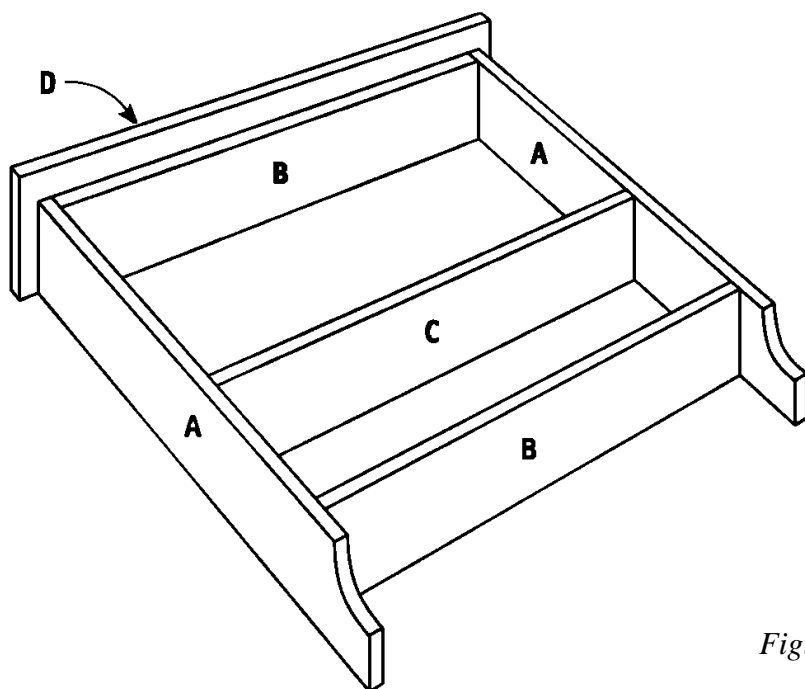
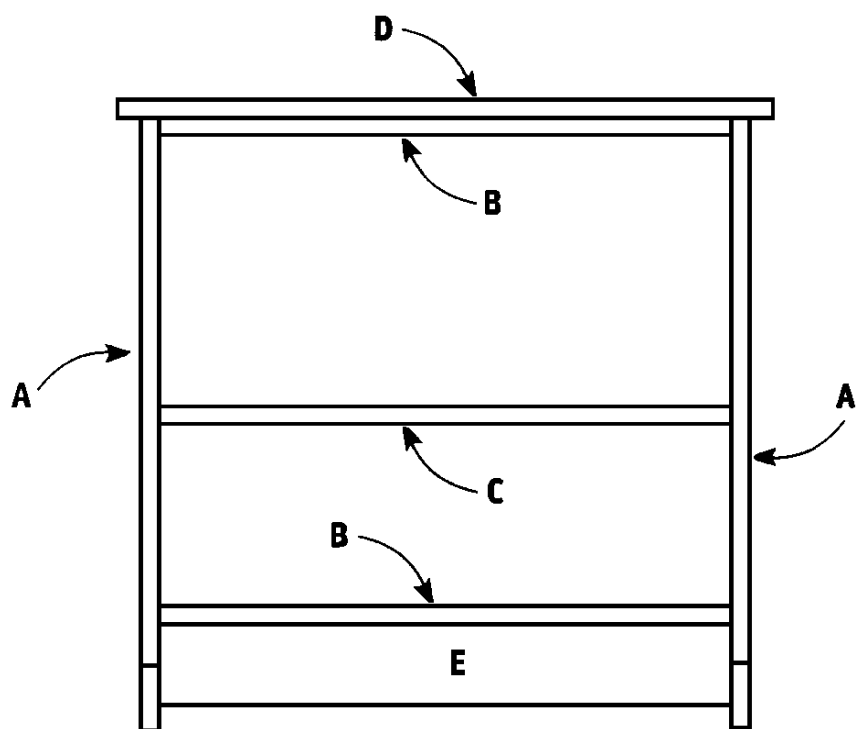

Figure 4
Figure 5
9. Place the Rack Ledge (D) over the ends of the Rack Sides (A) as shown in *Figure 4*. Apply glue to the meeting surfaces. Screw through the face of the Rack Top (D) into the ends of the Rack Sides (A) using three 1-5/8" screws on both ends.
10. Cut one Rack Base (E) from 1 x 4 pine measuring 24-1/2 inches.
11. Place the Rack Base (E) below the Rack Bottom (B) between the Rack Sides (A) as shown in *Figure 5*. Apply glue to the meeting surfaces. Screw through the face of the Rack Sides (A) into the end of the Rack Base (E). Also screw through the face of the Rack Bottom (B) into the edge of the Rack Base using three 1-5/8" screws on both sides.